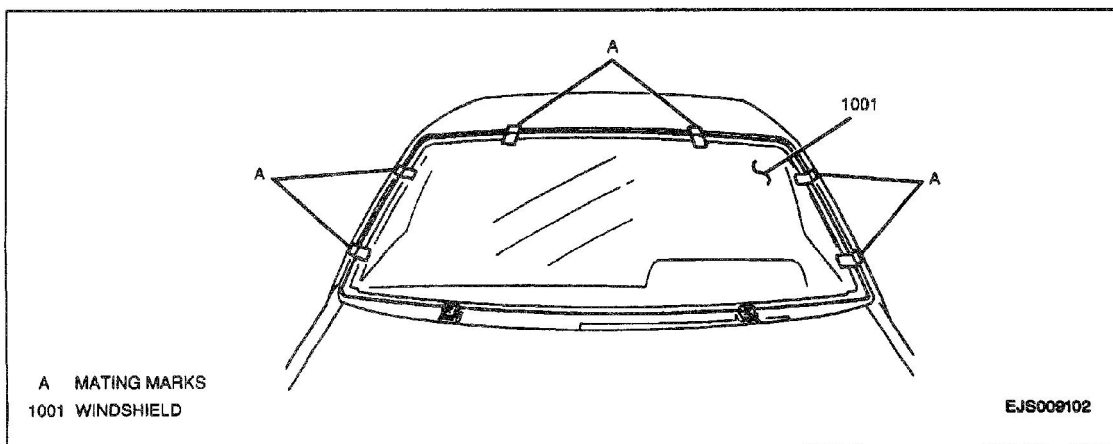

Figure 10—Windshield Mating Marks
4. Using a wax pencil, mark mating points on windshield and body (Figure 10).
- 10. Using rubber suction cups, and with the assistance of another technician, install the windshield, aligning mating marks (Figures 10 and 14).
11. Using rubber suction cups, and with the assistance of another technician, install the windshield, aligning mating marks (Figures 10 and 14).